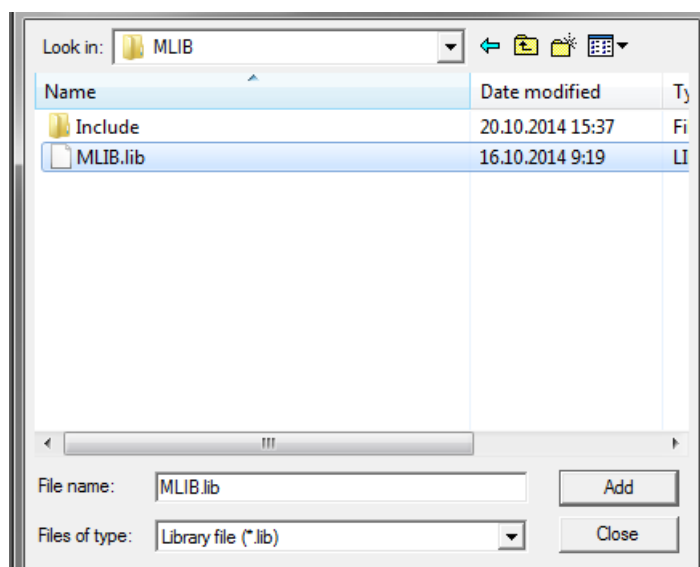

Figure 1-35. Adding .lib files dialog
5. Navigate to the parent folder C:\NXP\RTCESL\CM7F_RTCESL_4.5_KEIL\MLIB, and select the *mllib.lib* file. If the file does not appear, set the Files of type filter to Library file. Click Add. See Figure 1-35.